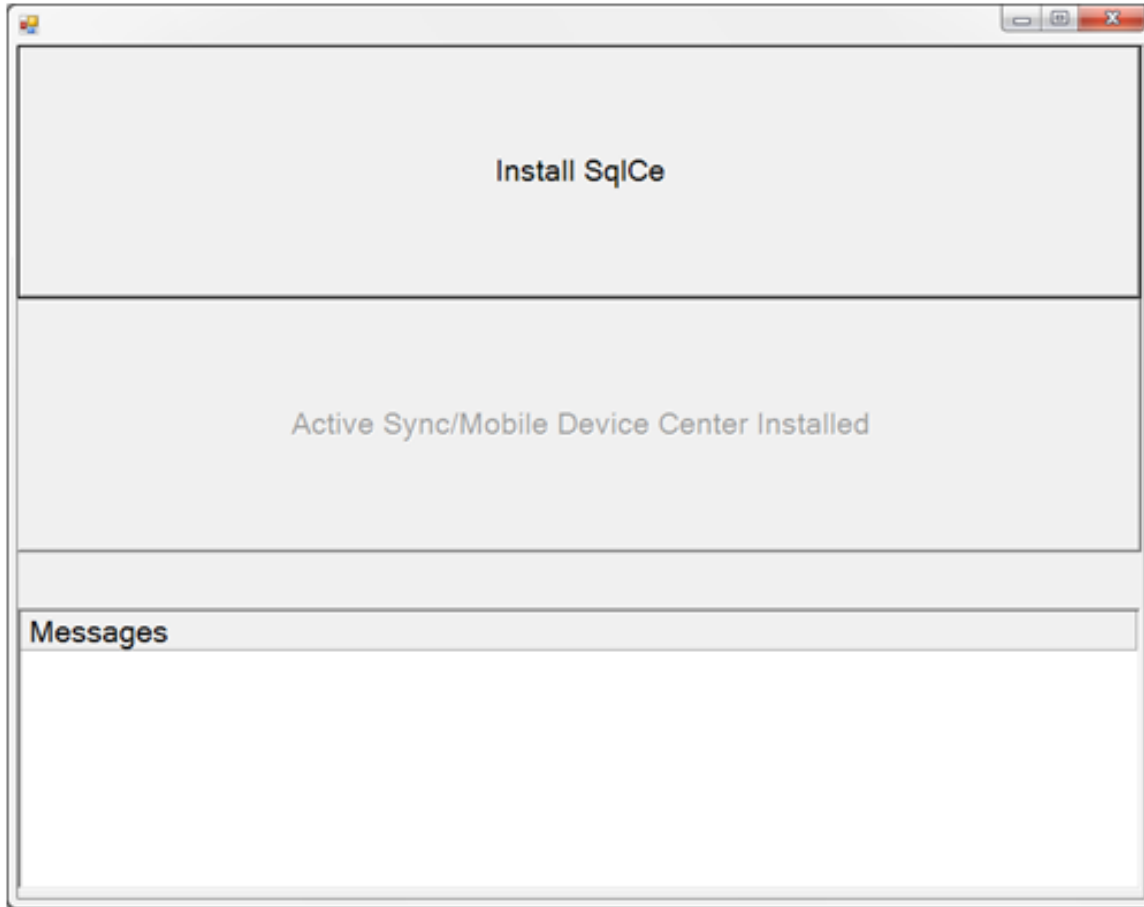

Figure 65 - Install Color Prerequisites window
This feature installs two prerequisites that are needed to connect to the Color Touch Screen Data Logger: (1) SQL Compact Edition (CE) and (2) Active Sync or Mobile Device Center. An example of what the screen may look like is shown in Figure 65. If a prerequisite is already installed, that prerequisite will be displayed with a lighter font. In Figure 65, Active Sync/Mobile Device Center has already been installed; therefore, that button's text reads, "Active Sync/Mobile Device Center Installed," and the text is lighter than the text for "Install SqlCE" (which has not been installed).